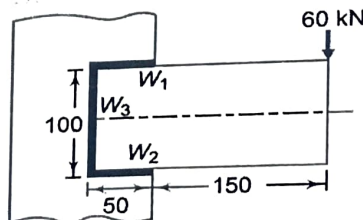

Figure 1 – Q 4 (a)
- (b) Explain the terms: coefficient of speed fluctuation and coefficient of steadiness. (8)
4. (a) A welded joint as shown in Fig. 1, is subjected to an eccentric load of 60 kN in the plane of the welds. Determine the size of the welds, if the permissible shear stress for the weld is 100 N/mm^2 . Assume static conditions. (10)